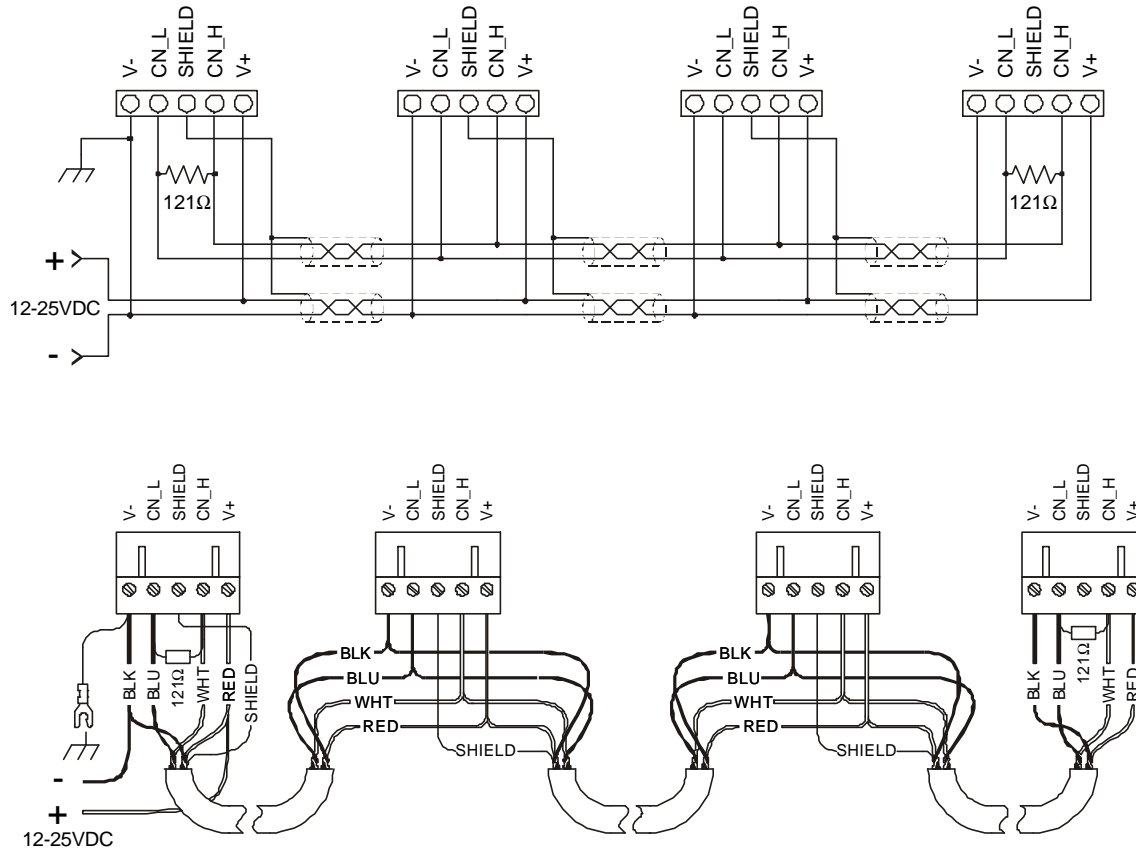

Figure 2.8 – CAN Wiring
c. CAN Wiring Rules (See Figure 2.8)
4. To ground the cable shield, connect to pin 3 as shown in Figure 2.8.